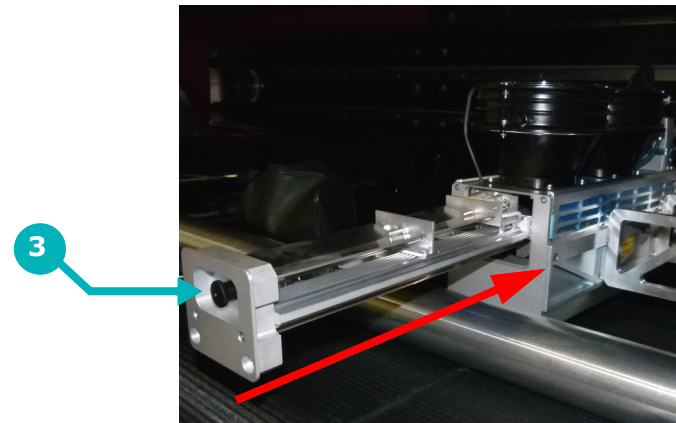

Figure 2-71: Reinstalling the bulb housing
3. Pull knob and push UV bulb housing until end power connector is seated. See Figure 2-71.